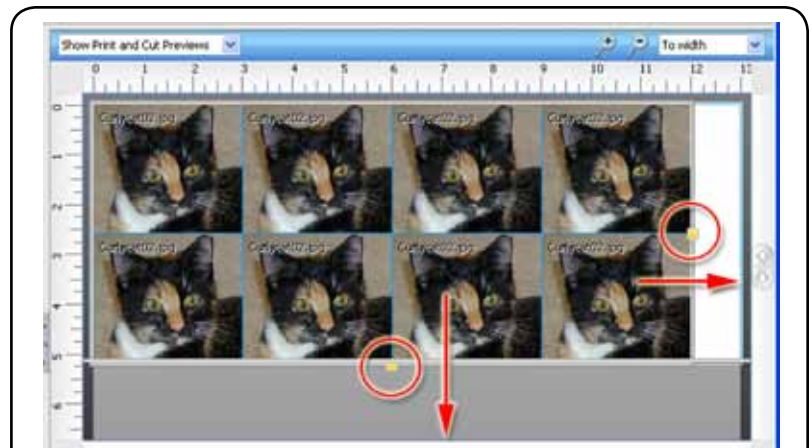

Fig. 30 - When making copies, print data will be calculated only for the original, rather than process the same data repeatedly.
- **Copies** – When copies are created within Visual Production Manager, only the original design will be rasterized, and the job copies will reuse the rasterization data (Fig. 30). In comparison, if multiple copies of a job are sent from the design application, then all such copies will be rasterized individually (i.e., more processing time would be required).